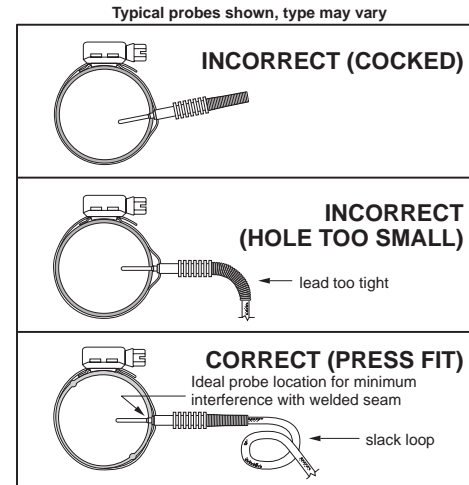

Figure 1. Welded Boss Type
6. Allow enough slack in probe lead to provide a finger-sized loop (see **Figure 1**) to minimize strain on wire and secure remainder of lead to engine/airframe away from exhaust pipe.